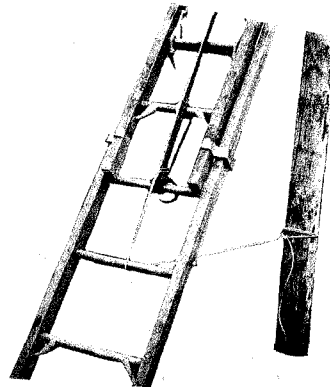

Fig. 12 — Bottom Lashed to Pole
- (e) Pass the loose end of the handline between two lower rungs and tie snugly to the base of the pole as shown in Fig. 12.